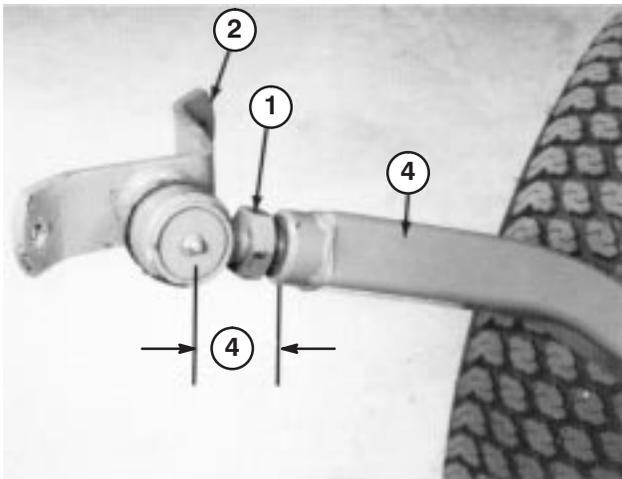

Figure 17
2. Screw ball joint into right hand push arm until center of ball joint is 2-3/8 inches (60 mm) away from front of push arm (Fig. 17). Do not tighten jam nut.